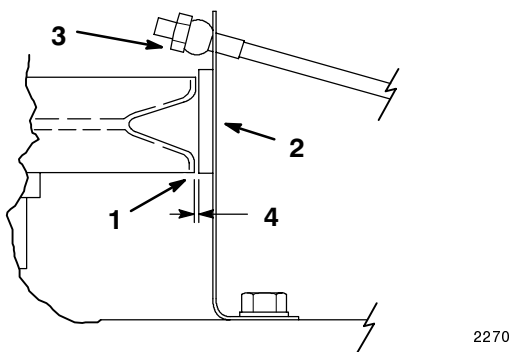

Figure 30
3. Using a feeler gage, measure between the bottom flange of (3) blade pulley and brake pad (Fig. 30). Adjust lock nut on brake rods to obtain proper clearance .020-.060 inch (.5-1.5 mm) (Fig. 30).